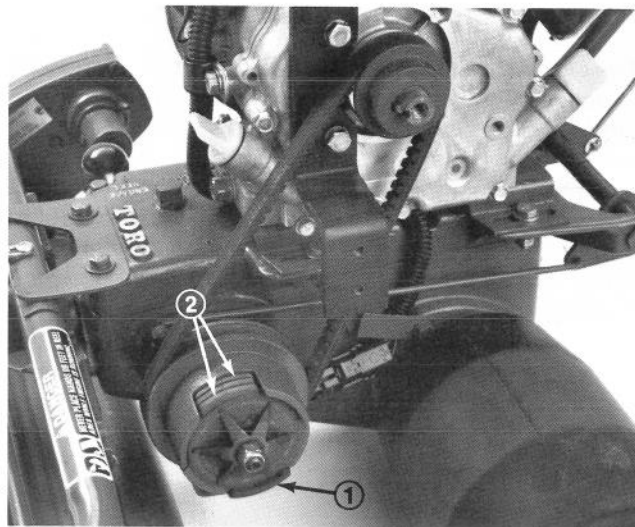

Figure 24
1. At the end of each seasons cutting, remove the traction clutch assembly and clean and re-pack the cam and roller assembly with No. 5 multi-purpose bearing grease (Fig. 24). Take extreme care to make sure that grease is kept off the clutch friction discs (Fig. 24).